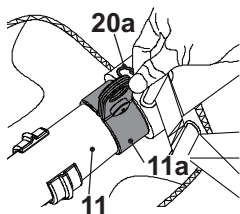

Fig. 14
- Adjust the length of the harness (20) so that the securing clip (20a) is approximately 15 cm below your waist.
- Attach the securing clip (20a) to the loop the suspension sleeve (11a) (Fig. 14).